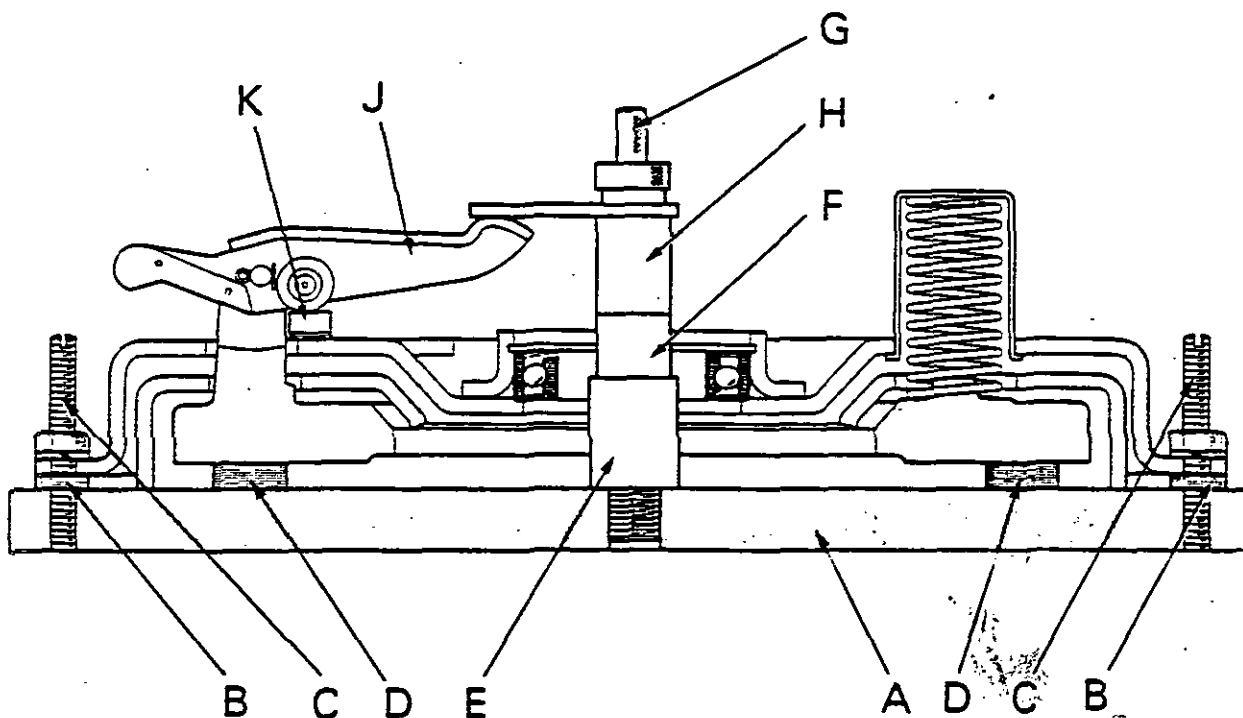

Figure 13. CHECKING RELEASE LEVER HEIGHT — BORG AND BECK
7. Remove actuator and fit centre pillar in its place. Place the appropriate spacer, Code 8 on a 10/10 in. clutch and Code 16 on a 11/10 in. clutch, on the centre pillar, with the recess downwards, and then fit the single checking finger. (Fig. 13.)